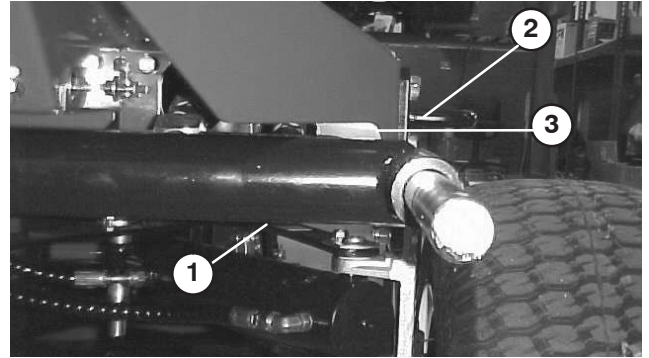
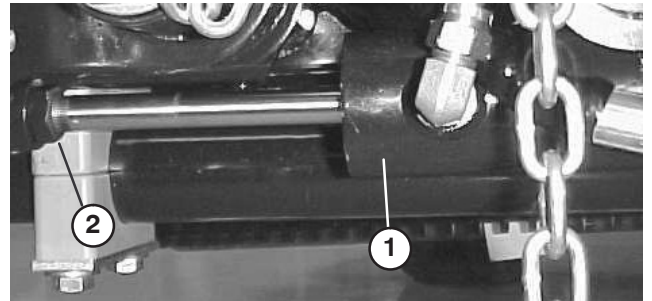
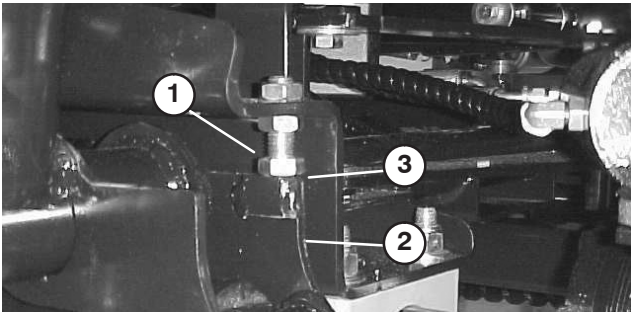

Figure 23
Figure 24
Figure 25
1. Start engine, raise lift arms and check to make sure clearance between each lift arm and floor plate bracket is .18" - .32" (Fig. 23). If clearance is not in this range, back off stop bolts (Fig. 25) and adjust cylinder to attain clearance. To adjust cylinder, back off the jam nut on the cylinder (Fig. 24), remove pin from rod end and rotate clevis. Install pin and check clearance. Repeat procedure if required. Tighten clevis jam nut.
2. Check to make sure clearance between each lift arm and stop bolt is .005” – .040” (Fig. 25). If clearance is not in this range, adjust stop bolts to attain clearance.